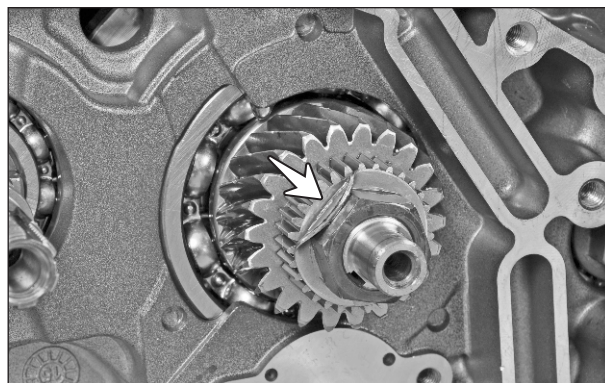

Fig. 3.125
- Unfold washer primary driven gear. (Fig. 3.125)